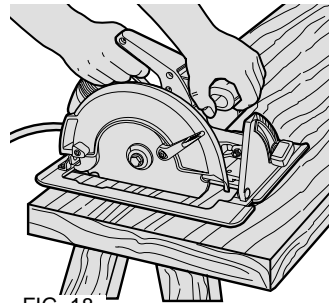
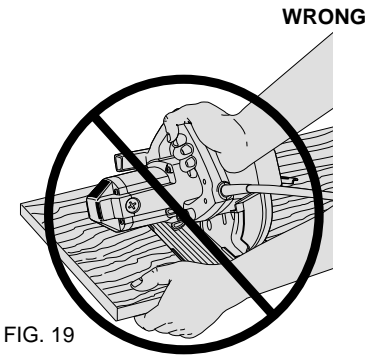

FIG. 18
FIG. 19
**⚠ WARNING:** It is important to support the work properly and to hold the saw firmly to prevent loss of control which could cause personal injury; Figure 18 illustrates typical hand support of the saw. **ALWAYS DISCONNECT SAW BEFORE MAKING ANY ADJUSTMENTS!** Place the work with its "good" side – the one on which appearance is most important – down. The saw cuts upward, so any splintering will be on the work face that is up when you saw it.
Support the work so that the cut will be on your right. Place the wider portion of the saw shoe on that part of the work piece which is solidly supported, not on the section that will fall off when the cut is made. As examples, Figure 18 illustrates the **RIGHT** way to cut off the end of a board, and Figure 19 the **WRONG** way. Always clamp work. Don't try to hold short pieces by hand! Remember to